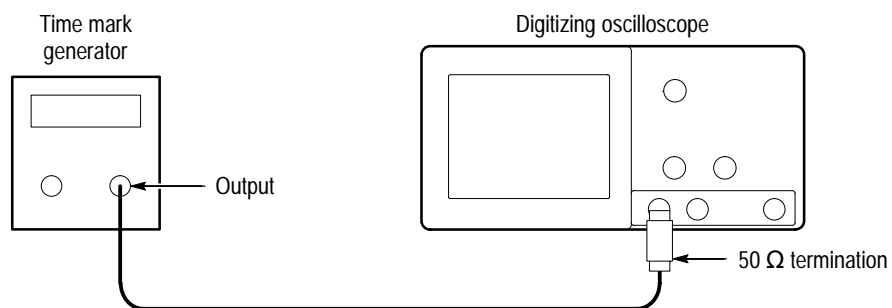

Figure 4–8: Hookup for sample rate check
1. Connect, through a 50  $\Omega$  precision coaxial cable and a 50  $\Omega$  termination, the time-mark output of a time-marker generator to **CH 1**, as shown in Figure 4–8. Set the output of the generator for 10 ms markers.